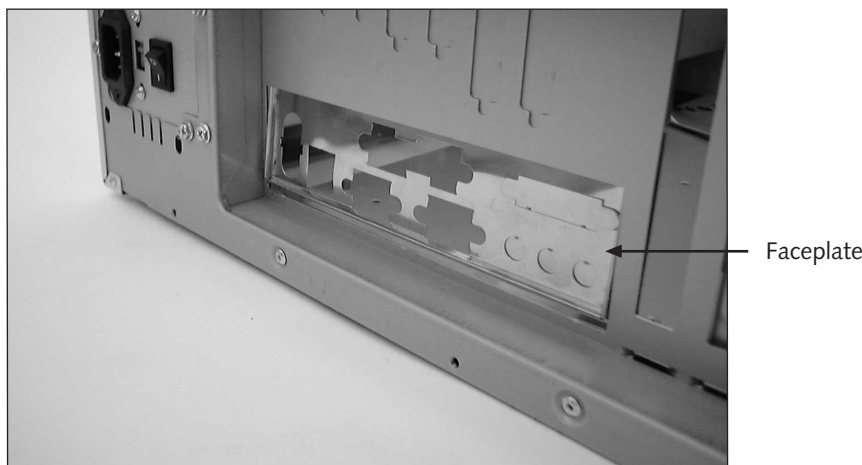

Figure 15-20 Install the faceplate in the hole at the rear of the computer case
- Insert the faceplate in the hole at the back of the case (see Figure 15-20).